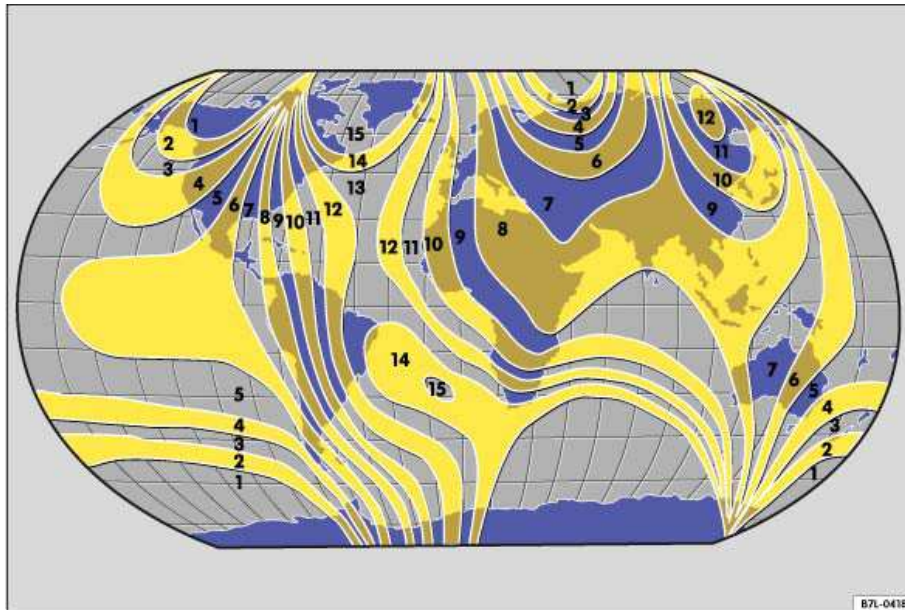

Fig. 12 Compass zones.
- Select the compass zone according to the current location ⇒ fig. 12.